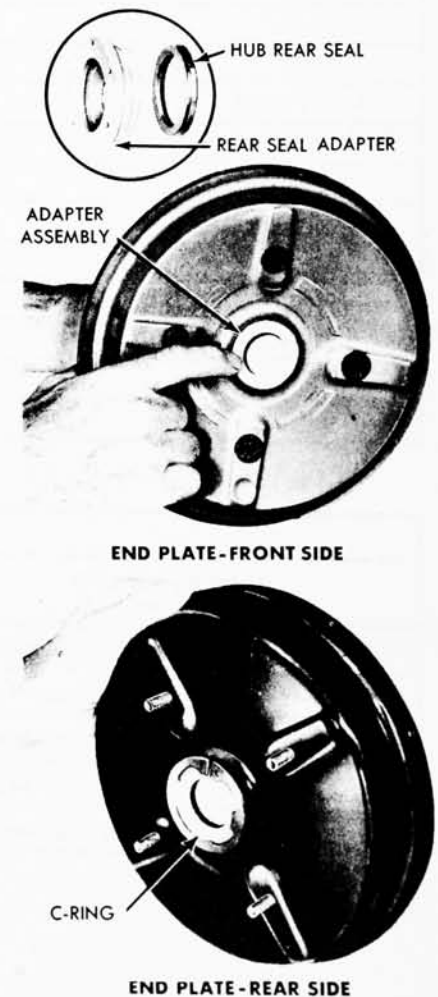

FIG. 23—Installation of Hub Rear Seal and Adapter Assembly
sealing lip toward the rear, then install the adapter assembly into the front side of the end plate with the small diameter end of the adapter protruding from the rear side of the end plate (Fig. 23).
5. Install the large C-ring to the rear seal adapter at the rear side of the end plate (Fig. 23).